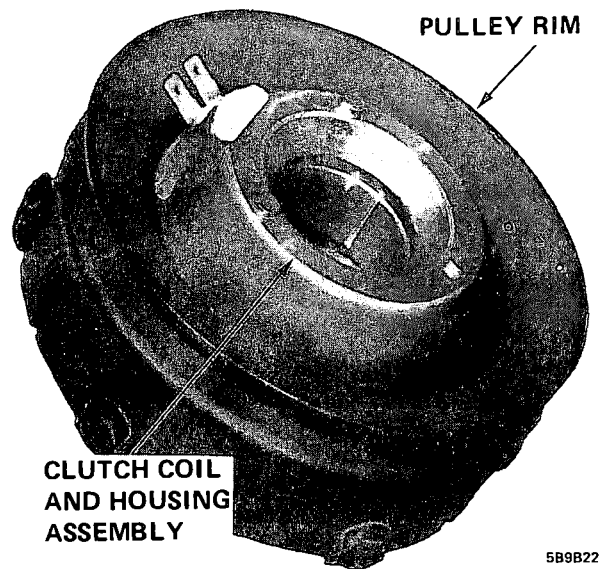

Figure 9B-46 - Pulley Rim, Clutch Coil and Housing Assembly - 4 Cylinder Compressor
2. Place the front head assembly on two blocks as shown in figure 9B-51 and using main bearing remover, J24896, drive the bearing out of the front head.